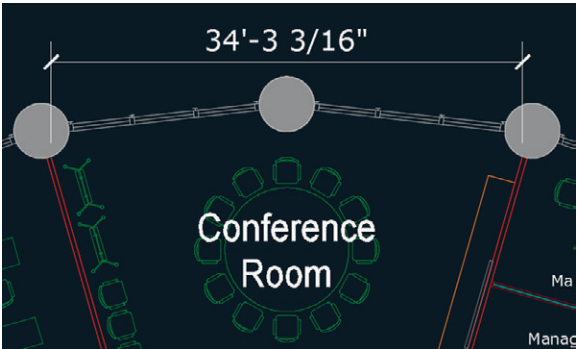

FIGURE 13.8 Moving the 1/16" = 1'-0" (or 1:200 in metric) scale dimension line upward for clarity
- 4. Toggle on AutoScale if it is not already on. Select the 1/16" = 1'-0" (or 1:200 in metric) scale button in the Annotation Scale menu on the status bar. Select the larger dimension object and, using one of the dimension line grips at either end of the dimension line, move it upward so that the dimension has longer extension lines. Press Esc to deselect. Figure 13.8 shows the result.